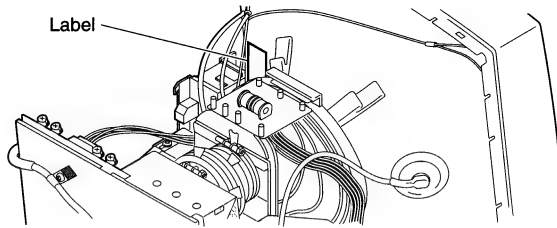

Figure 8 Determining Monitor Type
7. FIGURE 8. Locate the label on the side of the CRT and determine which type of monitor you have.